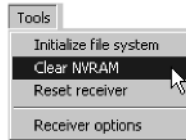

Figure 4-16. Tools->Clear NVRAM
2. Click **Tools->Clear NVRAM** (Figure 4-16). The REC LED rapidly flashes green and red; the STAT LED flashes just red.